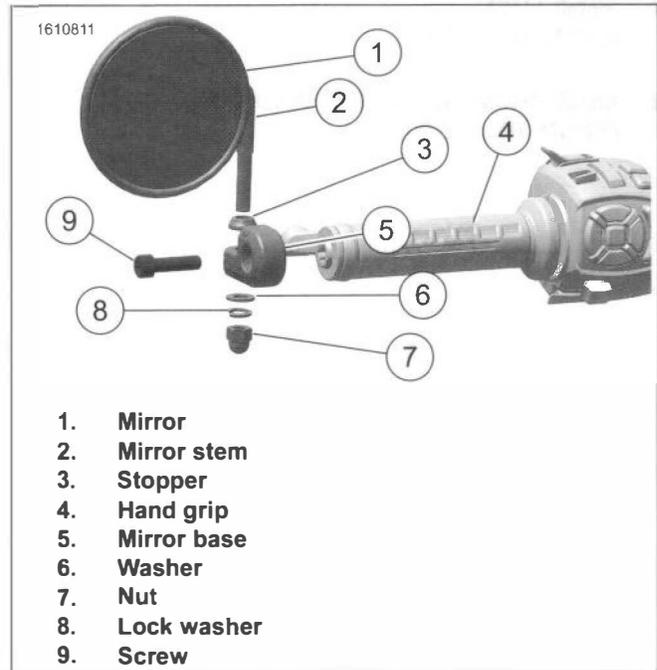

Figure 3-94. Mirror (left shown)
1. See Figure 3-94. Remove mirror.
- a. Remove nut (7).
- b. Remove lock washer (8) and washer (6).
- c. Remove mirror (1), stem (2) and stopper (3).
2. Remove screw (9) and mirror base (5).
1. See Figure 3-94. Install mirror base (5) and screw (9). Tighten.